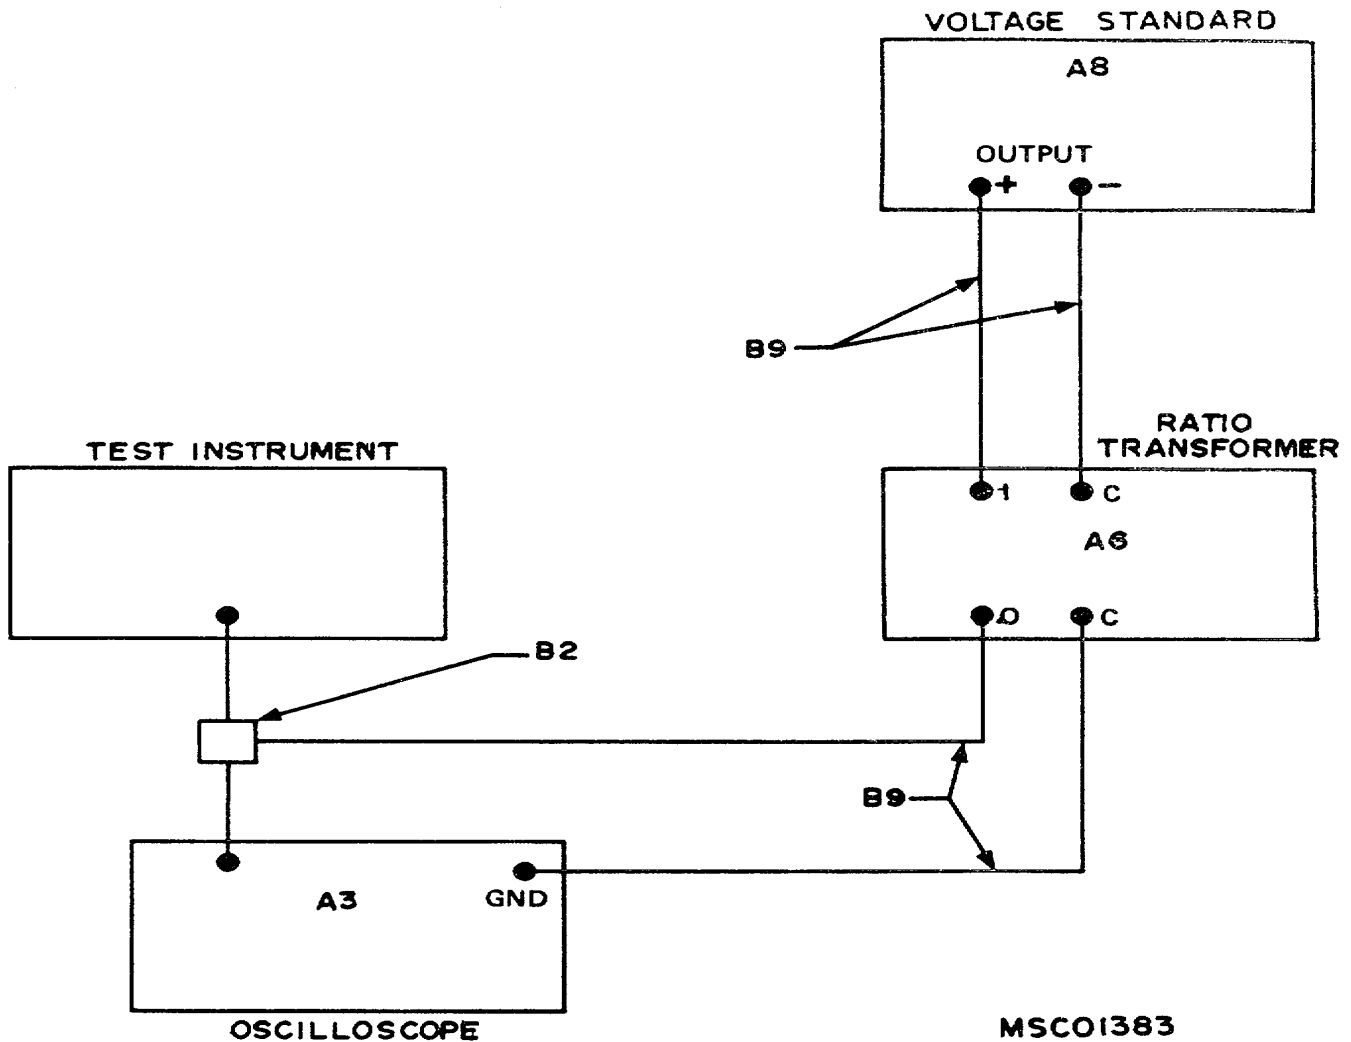

Figure 3. Vertical gain - equipment setup.
- (1) Set oscilloscope (A3) POWER switch to down (off) position.
(2) Remove TI from oscilloscope and connect equipment as shown in figure 3.
(3) Energize equipment and set ratio transformer (A6) decade dials to .00400.
(4) Set voltage standard (AS) dials to 035.3500.
(5) Adjust voltage standard frequency for 400 Hz and amplitude output for a 4-centimeter peak-to-peak display on oscilloscope crt.
(6) Set TI TEST FUNCTION switch to GAIN SET.
(7) Adjust ratio transformer decade dials for a 4-centimeter peak-to-peak display on oscilloscope crt. Ratio transformer will indicate between .99000 and X1000.